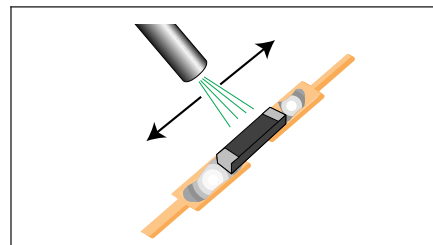

Figure 4 Pre-dry Paste
6. Direct hot air over component with tip at a distance of 2.5 cm to pre-dry solder paste. (See Figure 4.)